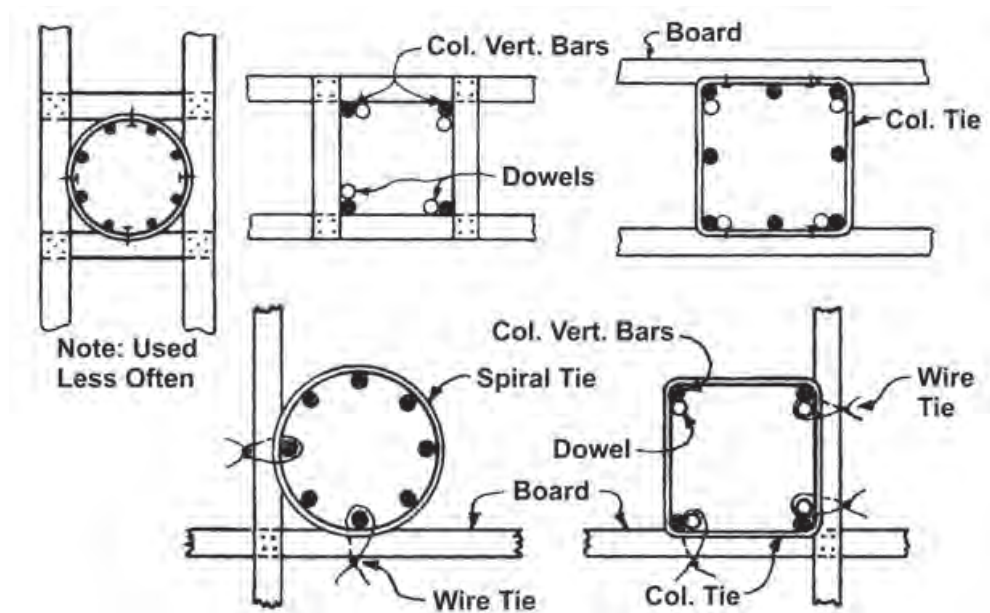

Fig. 12-8 Templates for Positioning Dowels and Column Vertical Bars
(1) One widely-accepted practice is to use a template made of wooden boards; or with a template tie or a single turn of spiral tied to the template boards (see Fig. 12-8). The dowels can then be located and carefully placed together with the footing mat bars. Where hooks are used on dowels, additional stability is obtained by tying the hooked ends to the footing mat. If mechanical or welded splices are used, the dowels must be set in line directly under the column vertical bars above.